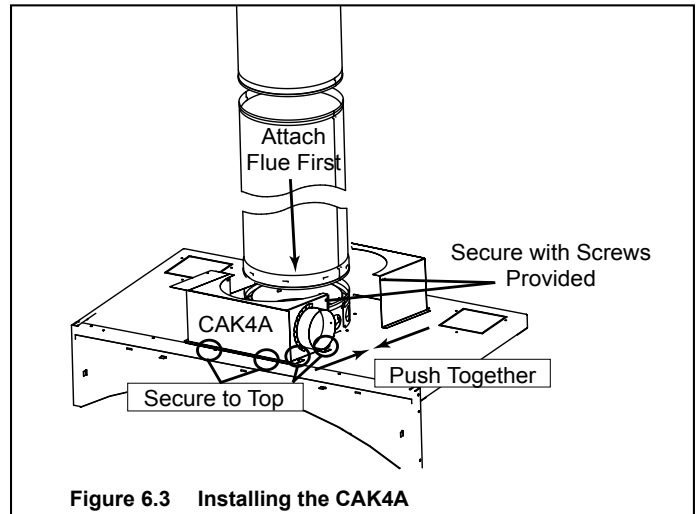

Figure 6.3 Installing the CAK4A
- Secure the CAK4A in place. See Figure 6.3.
- Seal around the kit at the flue and at the top of the outer shell with high temp caulk with a minimum rating of 500 degrees. See Figure 6.3.